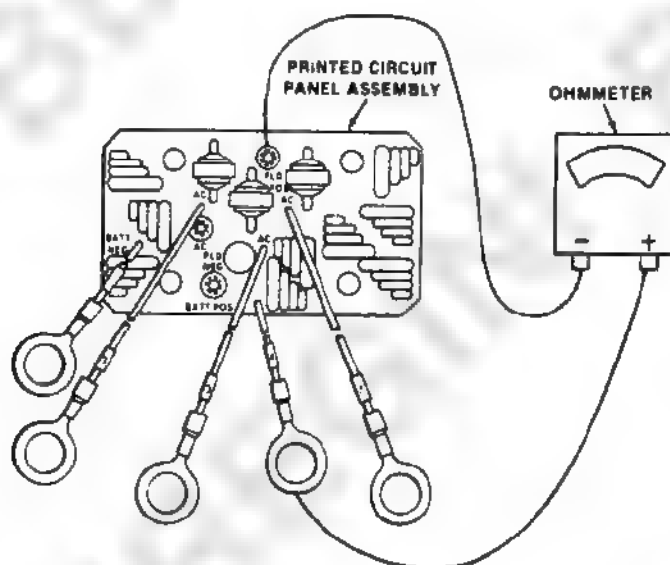

Figure 2-9. Shorted Printed Circuit Panel Assembly Capacitor Check.
- Step 11. Check for shorted or high leakage capacitors between battery positive and field positive according to figure 2-9.